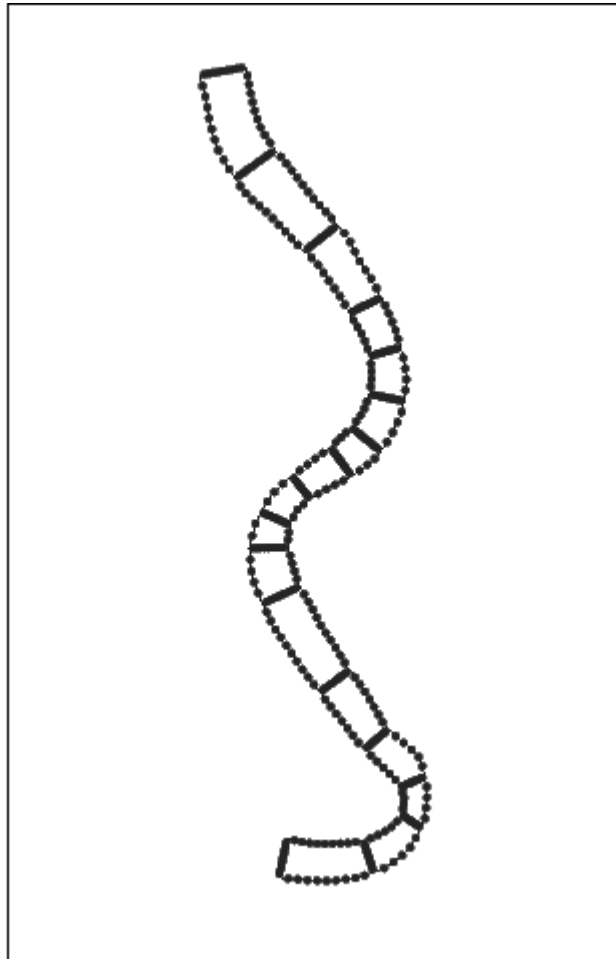

Figure 5 Arcs created across the channel
7. With the **Create Feature Arc**  tool, create sixteen perpendicular arcs across the channel as shown in Figure 5.